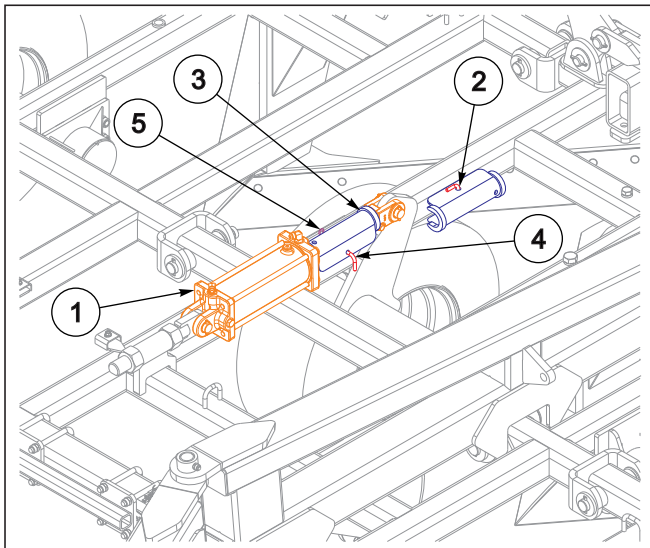

Figure 4-23: Installed Transport Locks
6. **Before transporting the Blade Plow on road, always install all transport locks and fold stop pins. Do not depend solely on implement hydraulics for transport, See Figure 4-23.**
7. With all lift cylinders (1) fully extended, remove the 2 x 10 transport locks from stored position (2) on frame and install on both LH and RH center frame lift cylinders (3), secure with I pin (4) and 1/8" hairpin (5).